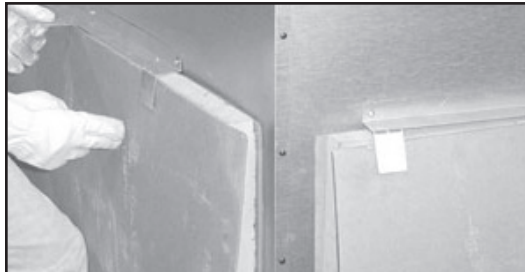

Figure 3.6 Unpacking Back Refractory
- Remove back refractory from outside of fireplace by bending tabs up and lifting refractory out of brackets. See Figure 3.6.